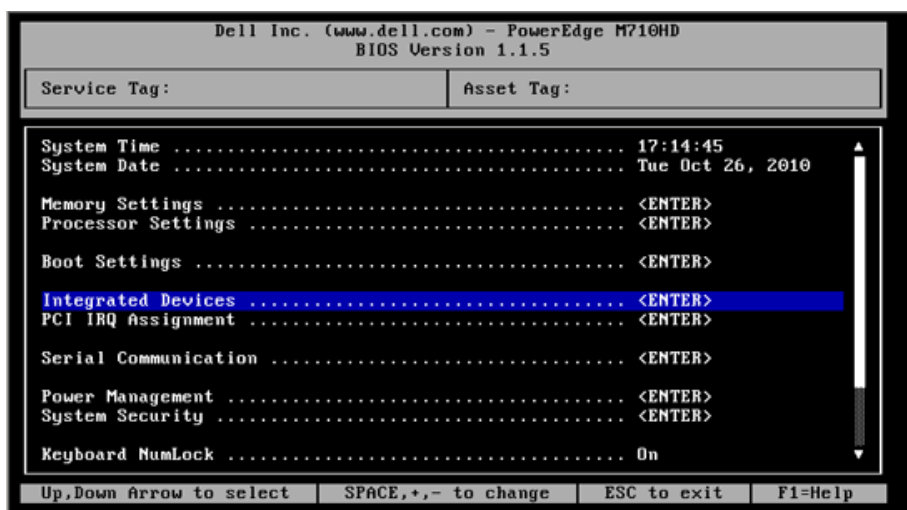

Figure 3: Dell BIOS: Integrated Devices
2. On the BIOS window (Figure 3), select **Integrated Devices**, and then press the ENTER key.